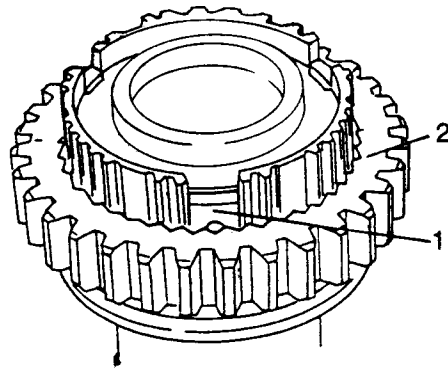

Fig H1.152
- (4) Refer to Fig H1.152. House the balls (1) in the ends of the springs and press them inwards one after the other and hold them manually or push the sliding blocks downwards until the balls are retained by the outer body (2).
- (5) Lift up the outer body (2) until the balls remain in the grooves of the teeth of the outer body.
- (6) Finally fit the two synchro cones and check correct operation of the outer body on the inner body.